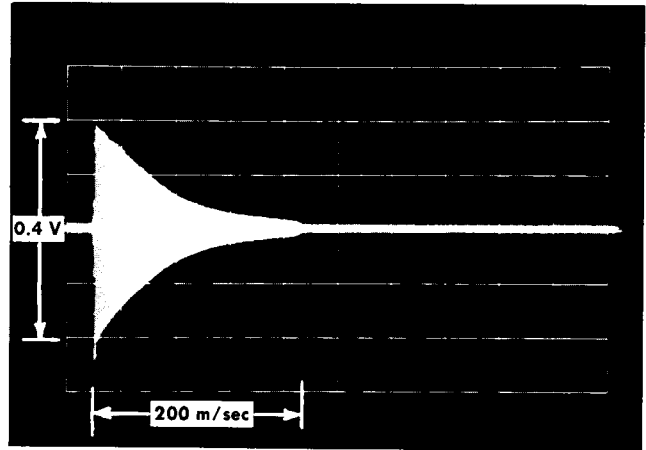

Fig. 6-10. Degauss waveform, coupled through 10 Ω loop.
g. Check the stored display for a four-centimeter (0.4 V) damped waveform lasting approximately 200 milliseconds. See Fig. 6-10.